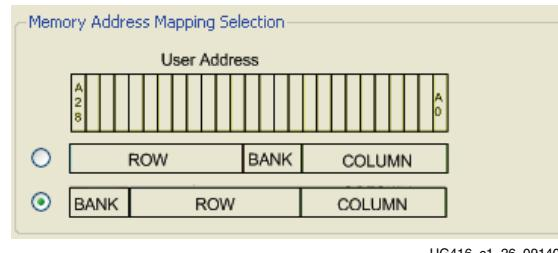
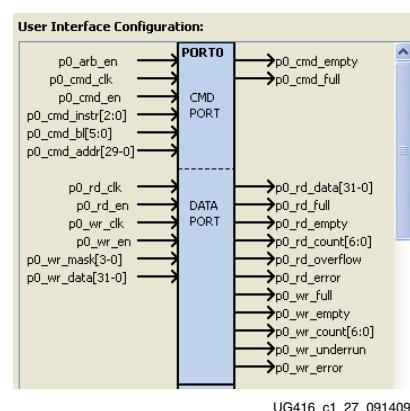

Figure 1-26: Selecting the Memory Address Mapping Scheme
Figure 1-27: User Interface Port Configuration
9. Select the Memory Address Mapping that works best for the application as shown in Figure 1-26. The User Configuration Interface diagram on the right of the page (not available for AXI4 interfaces) now shows a summary of the completed multi-port configuration (see Figure 1-27). Click **Next** to proceed.